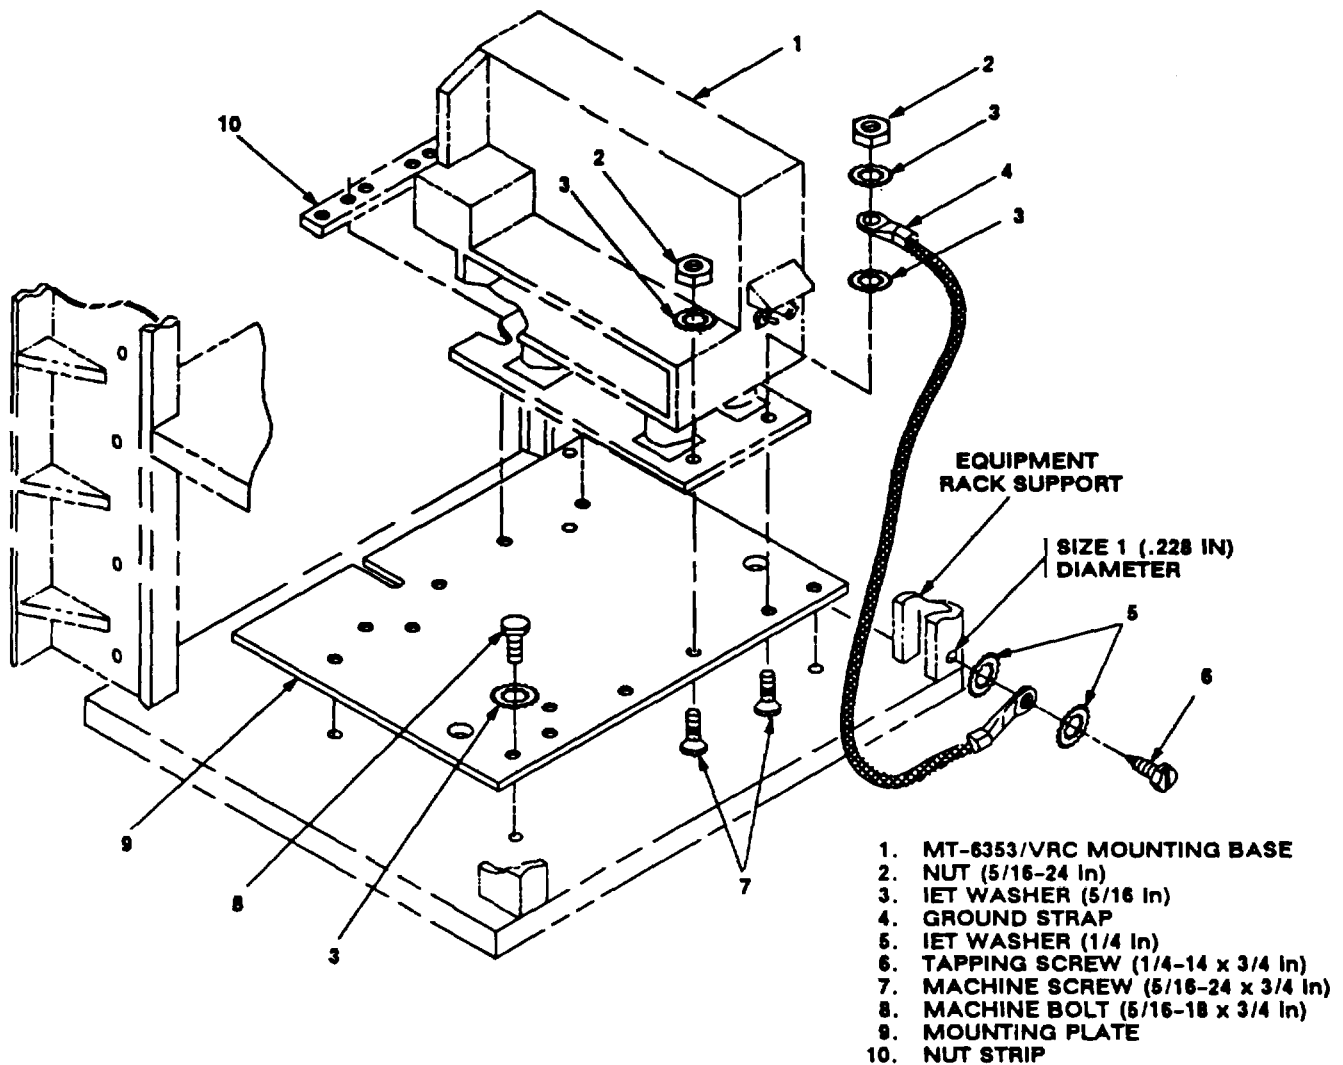

Figure 5-6. MT-6353VRC Mounting Base Installation
| a. MT-6353/VRC mounting base (1). | Place on mounting plate (9) over existing holes. See figure 5-6. |
b. MT-6353/VRC mounting base (1).	Aline front holes and rear slots with matching hole pattern in mounting plate (9). See figure 5-6.
c. Two flat-head machine screws (7) and nut strip (10).	Install and secure to rear slots in MT-6353/VRC mounting base (1) and mounting plate (9).	Tools: Phillips screwdriver.
d. Ground strap (4), two flat-head machine screws (7), three IET washers (3) and two nuts (2).	Install and secure to front holes in MT-6353/VRC mounting base (1) and mounting plate (9).	Tools: Phillips screwdriver and 1/2 in wrench.
e. Mounting plate (9).	Place on bottom shelf; then aline mounting holes with matching hole pattern in shelf.
f. Four machine bolts (8) and four IET washers (3).	Install and secure to mounting plate (9) and shelf.	Tools: 1/2 in socket.